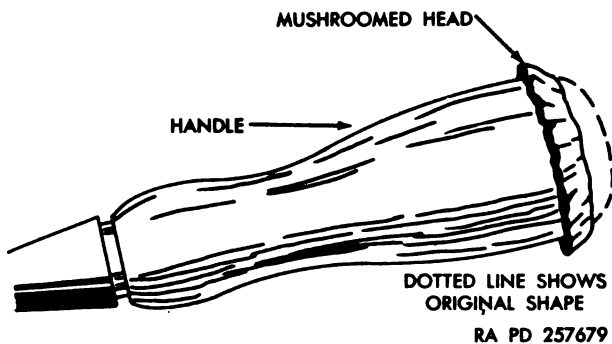

Figure 209. Mushroomed chisel handle.
- (3) *Repairing damaged handle heads.* If the head of a woodworker's chisel becomes mushroomed (fig. 209), it can be repaired as described in (a) through (d) below.